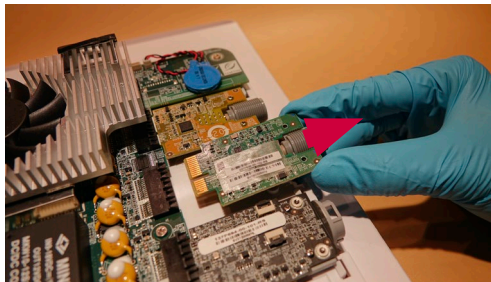

Figure 17 Remove the VDI board
a) Pull the VDI board out of the main board connector (Figure 17)